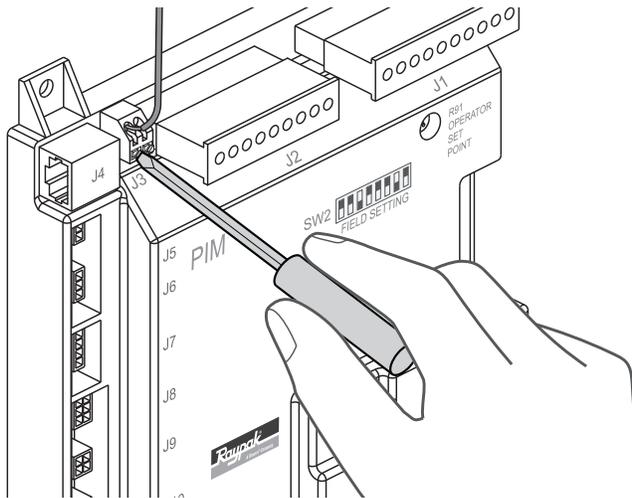

Figure 21. FT\_BUS Wire Connection
4. Connect the FT\_BUS wires to the PIM by pressing down on the slots with a small screwdriver and then inserting the wires into the holes. See **Figure 21**.